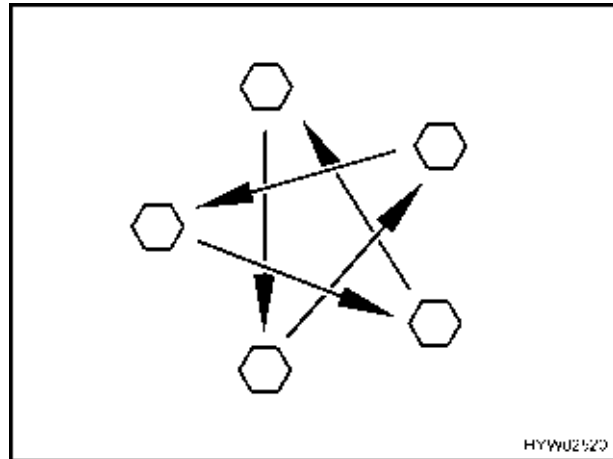

Fig. 193 Tighten the wheel nuts or wheel bolts cross-wise
- Check regularly that the wheel nuts or wheel bolts are firmly seated. Re-tighten the wheel nuts or wheel bolts of a changed wheel cross-wise after 50 km (30 miles) (Fig. 193). For tightening torque see section Tightening Torque.
- ▷ Tighten the wheel nuts or wheel bolts cross-wise (Fig. 193). For tightening torque see section Tightening Torque.